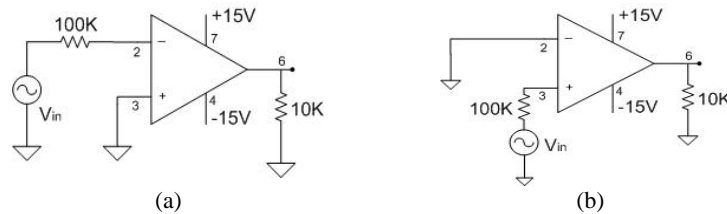

Fig 2 (a) Inverting Zero Crossing Detector and **(b)** Non- inverting Zero Crossing Detector
A **zero crossing detector** is a comparator with the reference level set at zero. It is used for detecting the zero crossings of ac signals. It can be made from an operational amplifier with an input voltage at its positive input or negative input which are shown in **Fig. 2(a)** and **Fig. 2(b)**, respectively.
1. Implement the circuit as shown in the Fig. 2.